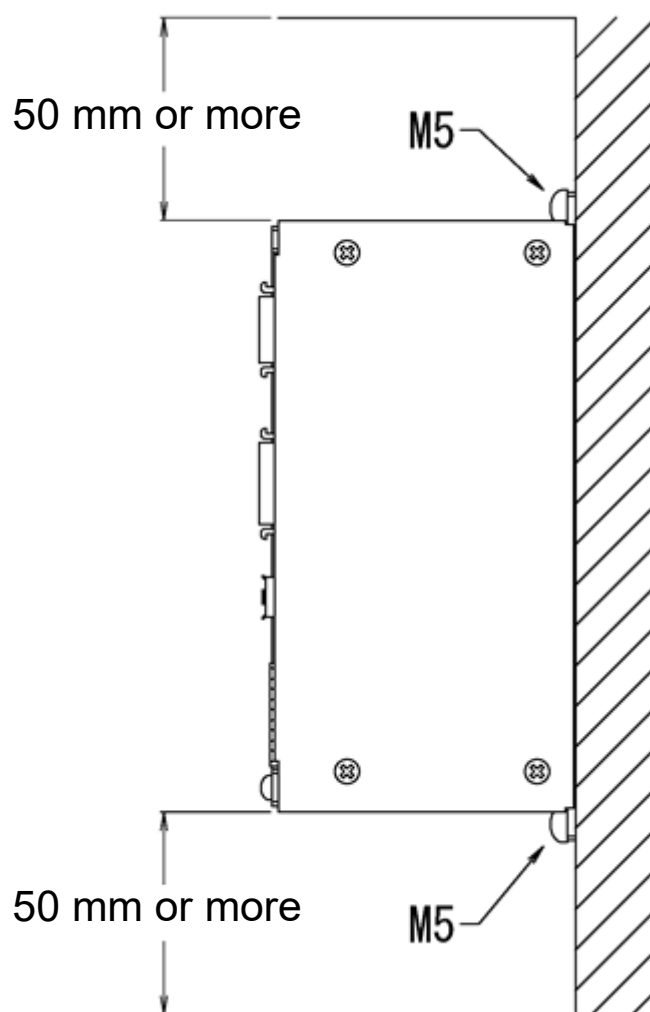

Figure 3-2 Encoder distribution unit mounting example
- (3) The mounting methods for this device are shown in Figure 3-2 Encoder distribution unit mounting example.